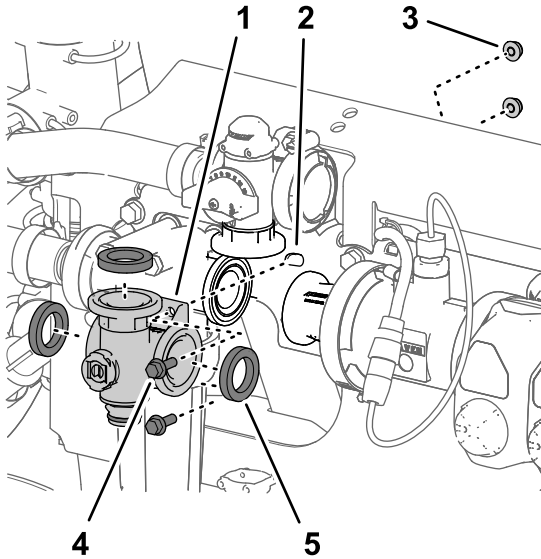

Figure 119
- Remove the 2 flange-head bolts (1/4 x 3/4 inch) and 2 flange locknuts (1/4 inch) that secure the agitation-valve manifold to the valve support (Figure 119).
- Remove the agitation-valve manifold and gaskets from the machine (Figure 119).